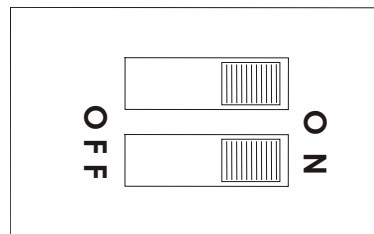

Figure 11-3 12V DO Dip Switch
- 3) Using a sharp tool (such as tweezers, a small screwdriver, or the tip of a ball-point pen), through the plastic wrap set the S3 dip switch (see Figure 11-3) on the DO SBO module board to the desired position, according to the legend in Table 11-1 (for 8 DO SBO) and Table 11-2 (for 16 DO SBO).